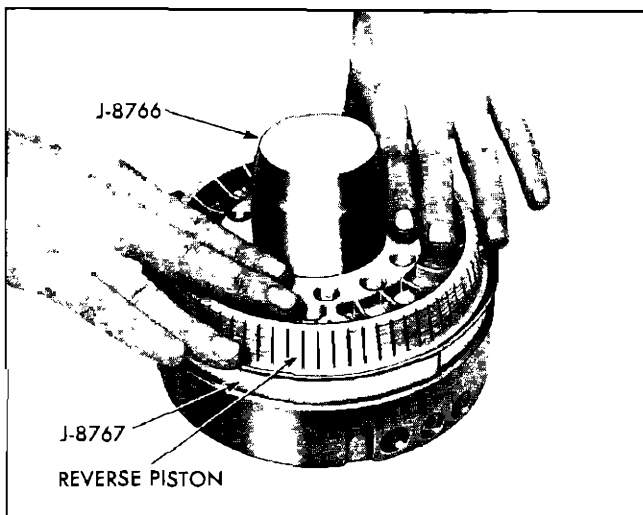

Fig. 87 Installing Reverse Clutch Piston
12. Install reverse piston, aligning piston to index with dowel pins (Fig. 87).